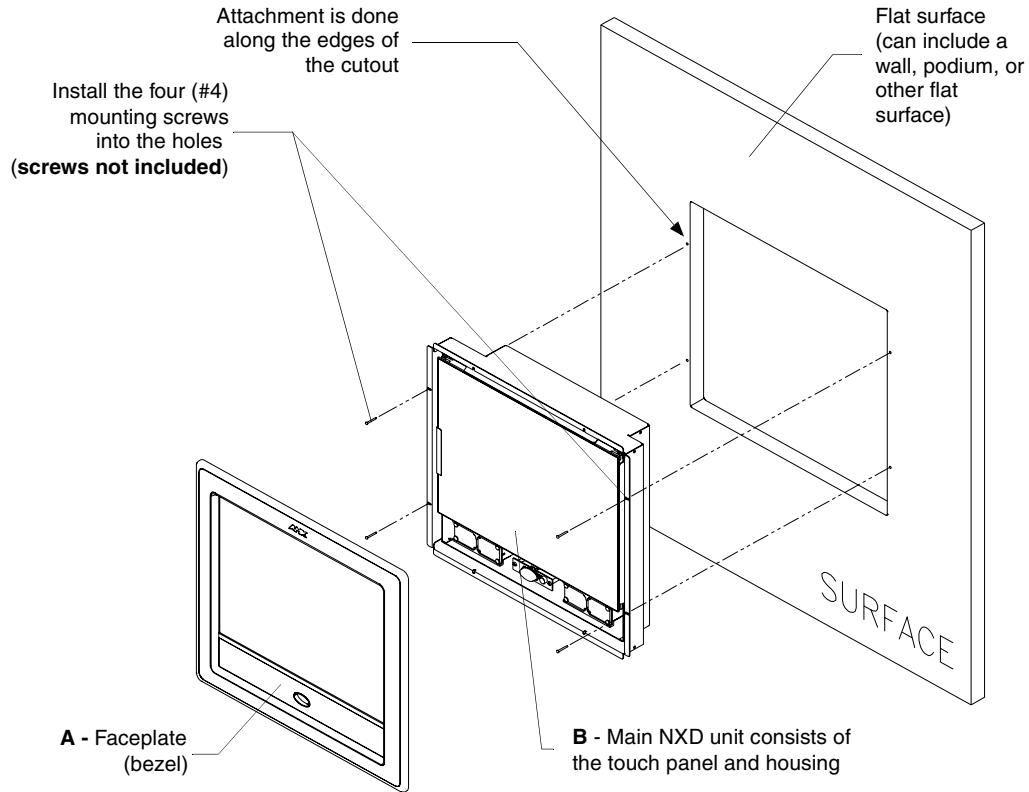

FIG. 45 Wall Mount panel installation configuration for flat/solid surfaces
3. Remove the magnetic faceplate/bezel (A in FIG. 45) from the main NXD unit (B in FIG. 45) by gripping the faceplate and pulling with gentle outward force.
10. Reinstall the magnetic faceplate (**A** in FIG. 45) back onto the main NXD unit (**B** in FIG. 45). *Make sure to align the Microphone, Light, and PIR Motion sensor locations to their respective openings on the front bezel/faceplate.*